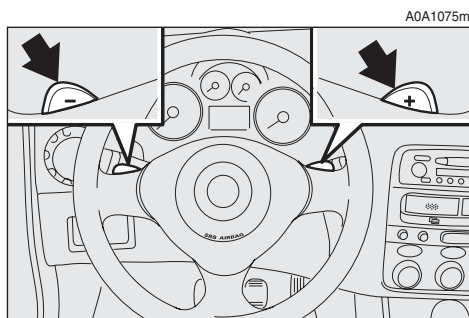

fig. 135
- the levers on the steering wheel (**fig. 135**).